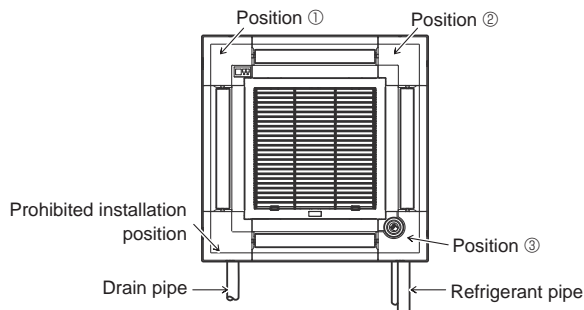

Fig. 9-10
- The i-see Sensor corner panel should be fixed onto the grille ① with screw ③.
- * If the position of the i-see Sensor was changed from default position (Position ③) to the other position, change the function settings. (Refer to page 11 and Fig. 9-10)
- The i-see Sensor corner panel can not installed on the drain pipe side for the main unit. (Refer to Fig. 9-10)